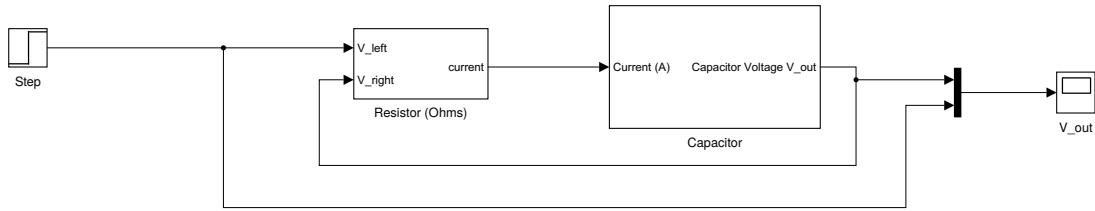

Figure 1.5: The RC circuit.
**The RC Model:** Now in the main model join together the resistor and capacitor subsystems as shown in Fig. 1.5. You may have to delete the automatically created i/o ports of the subsystems and replace them with appropriate connections.